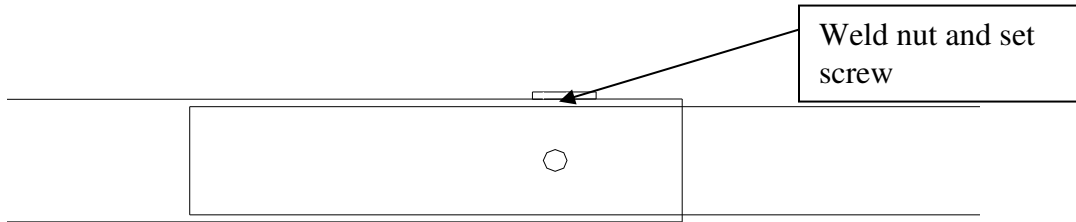

Figure 10. Close up of mating between inner and outer tubes, showing weld nut.
- 9) To temporarily retain the extension tubes at the proper length, tighten the setscrews provided in the welded on T-nut, see figure 10. At this time, the board should also be squared and leveled.